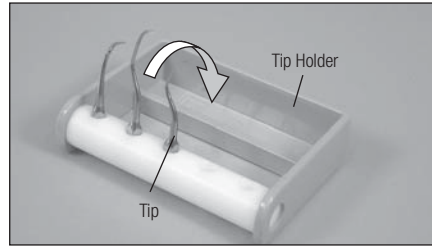

Fig. 30
- The Tip Holder is autoclavable and can hold up to 5 types at once. To autoclave, tilt the Tips in the direction of the arrow in fig.30.